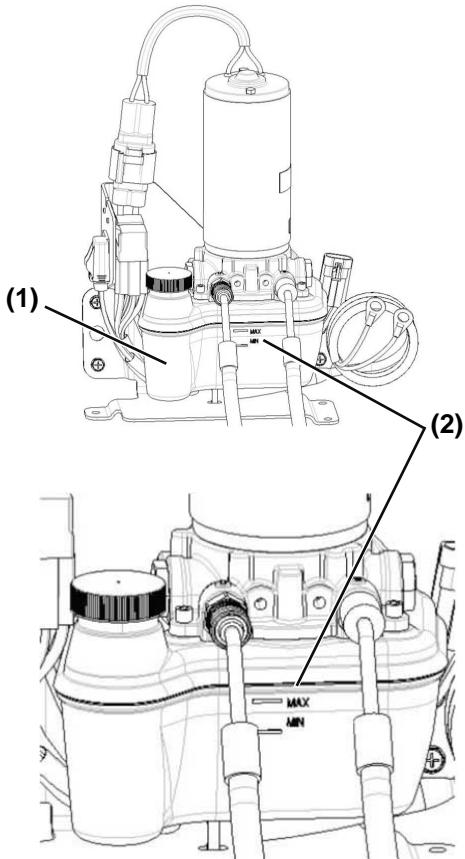

Figure 4
2. Observe the oil level in the reservoir. The oil level should be maintained within the MIN and MAX lines on the reservoir (**Figure 4, (2)**).
3. The oil level is low if it is below the MIN line (**Figure 4, (1)**) on the reservoir. Fill as necessary with the specified fluid. See *Fill the Power Trim Pump Fluid* on page 28.